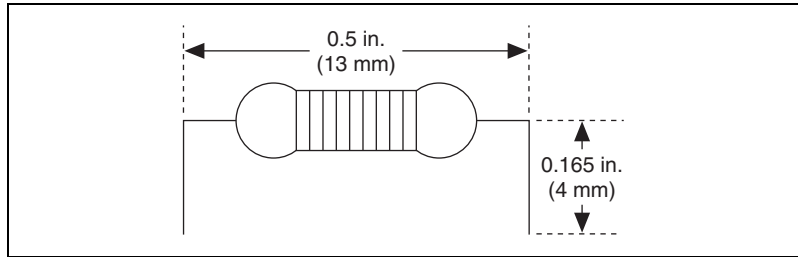

Figure C-10. Preparing Lead Wires of Replacement Resistors
2. Cut and bend the lead wires of the resistors you want to install. Refer to Figure C-10.